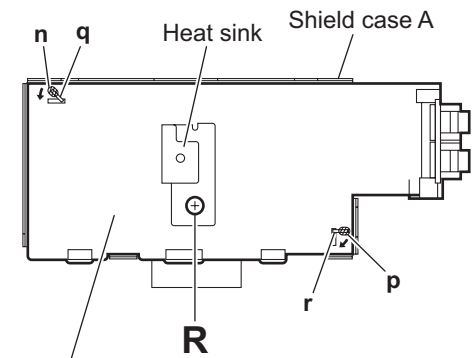

Fig.22
- From the forward side of the digital amplifier board, remove the screw **R** attaching the heat sink. (See Fig.22.)
- Remove the solders from the soldered sections (**n, p**) and bend the sections (**q, r**) of the shield case A in the direction of the arrow. (See Fig.22.)